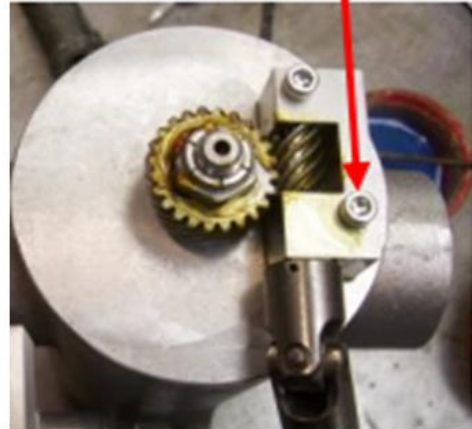

Fig. 54
- 4b. Models 7660 & 8480: Remove the bolts which hold each bearing pin in place. To remove the pins, thread the bolts into the tapped holes and turn. The pin will then be driven out. (Figure 54).